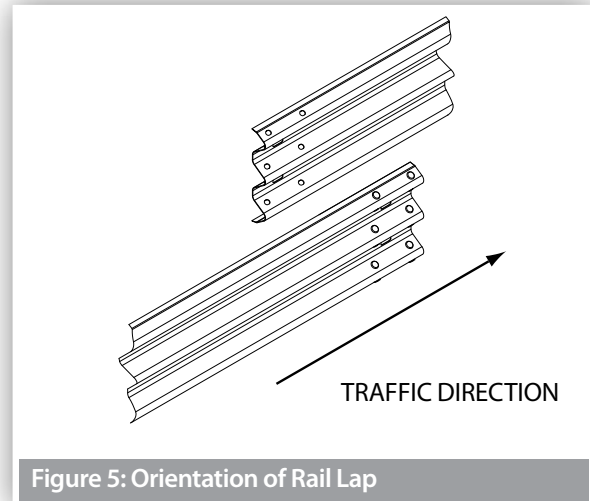

Figure 5: Orientation of Rail Lap
11. The first rail is connected to the concrete via the thrie-beam structural connector. The lapping of the splice joint should follow figure 5 and uses twelve M16x32 splice bolts/nuts.